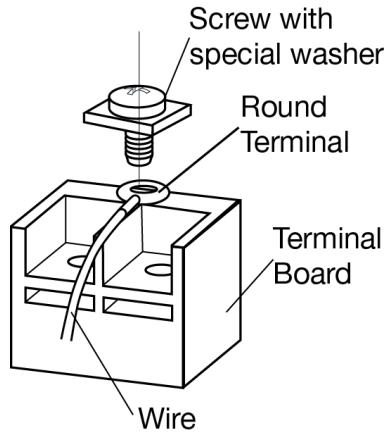

Fig.38
- d. Position the round terminal wire, and replace and tighten the terminal screw using a screwdriver (Fig. 38).